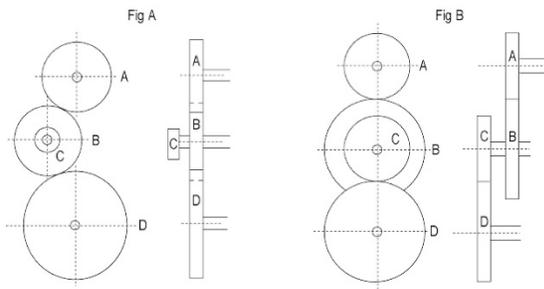

Figure 14-1
1. Ref. Fig. 14-1 (Fig A)
2. Ref. Fig. 14-1 (Fig B)